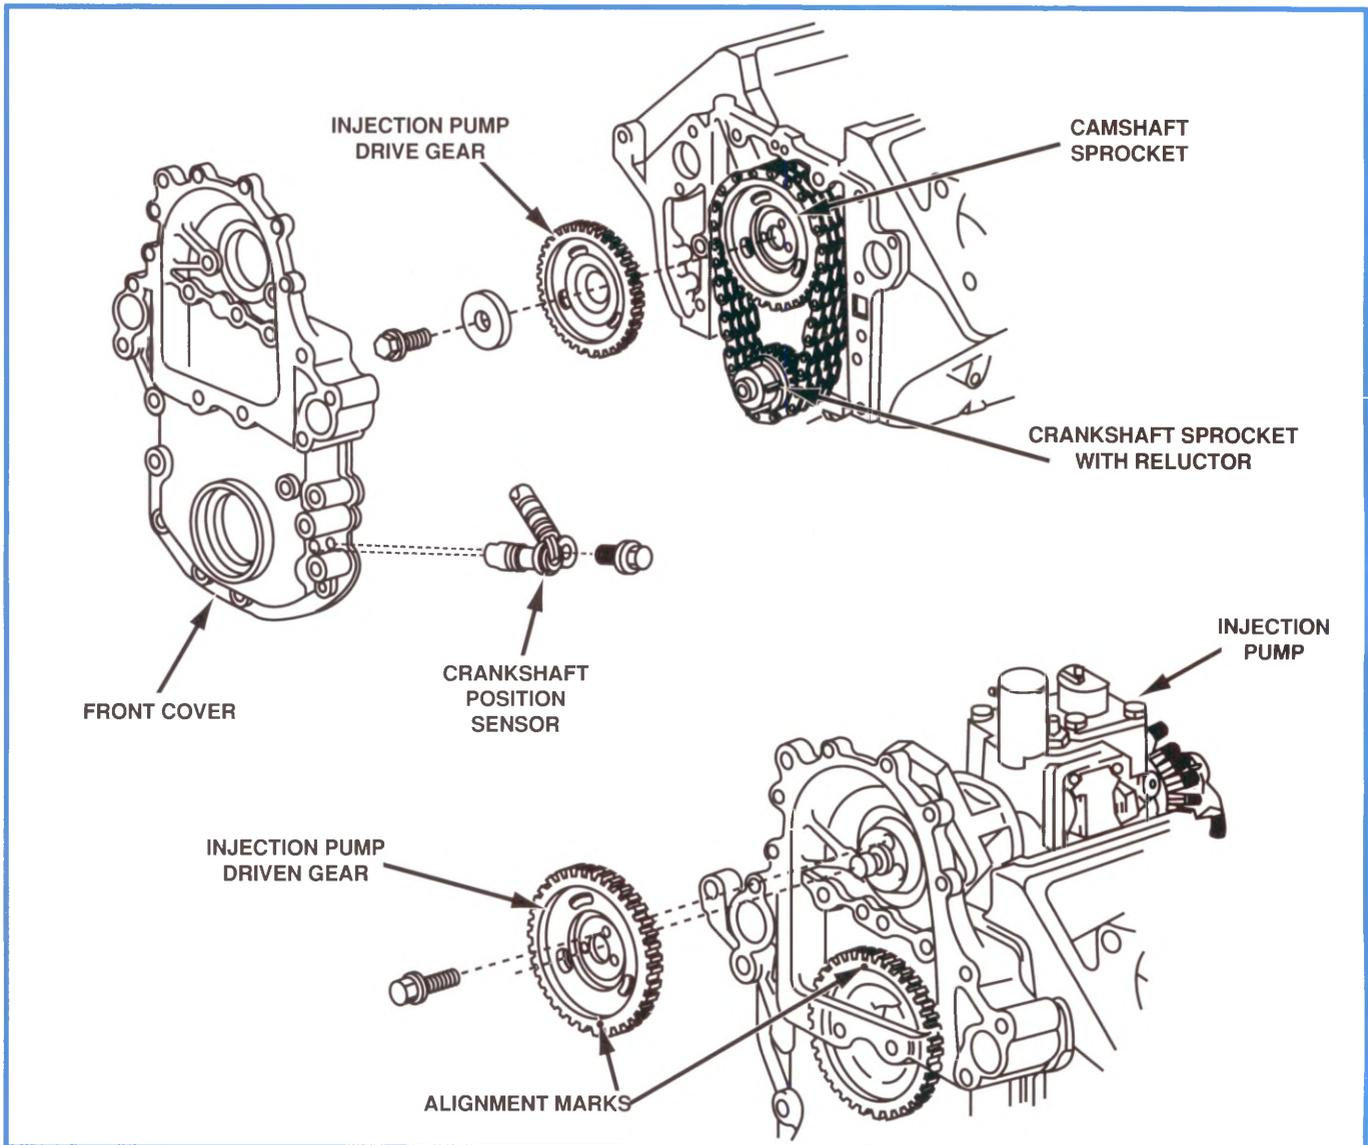

Figure 2-2, Front Cover
The front cover is made of cast aluminum and has several features (figure 2-2):
- A shorter-length collar on the balancer to accommodate the reluctor ring (figure 2-2)
The PCM-controlled injection pump is mounted on top of the engine, under the intake manifold. The pump is driven by the camshaft through two gears (refer to figure 2-2). One attaches to the front of the camshaft, the other attaches to the end of the pump shaft. Because these gears are the same size and have the same number of teeth, the injection pump shaft turns at the same speed as the camshaft.